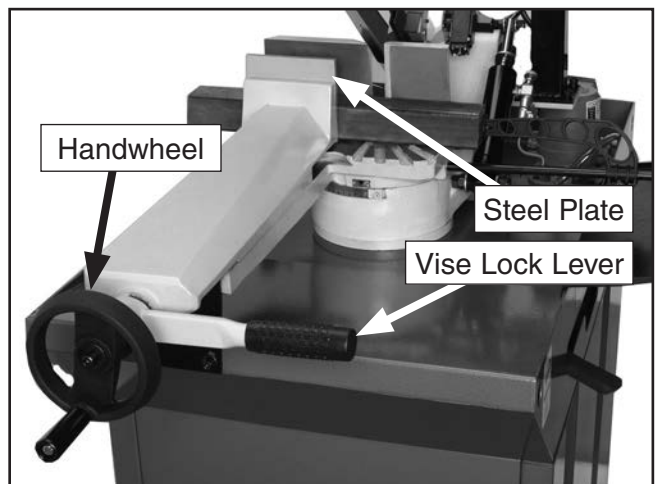

Figure 17. Vise options and controls.
The vise has a quick tighten/release lever and, depending on the cut angle or workpiece shape, you can remove or install the aluminium vise clamp plate (**Figure 17**) for additional holding force.
3. Use the handwheel (**Figure 17**) to move the jaws so they are within 1/8" from clamping the workpiece.